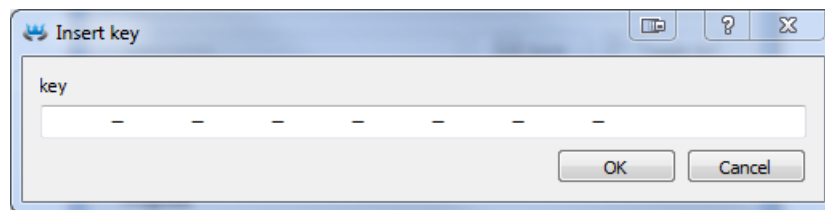

Figure 3.4: Insertion of a Licensing Key
*I already have a license:* Select this option if you already have a valid license and you want to submit a licensing key into target device. (figure 3.4).